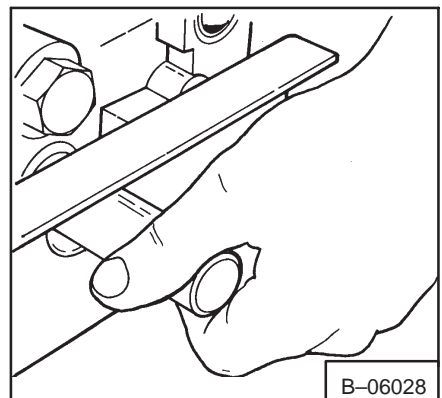

Fig. 3-20 Hose Fittings
7. Remove the hose fittings (Front and rear) (Fig. 3-20).
6. Install the hose fittings (Fig. 3-20) and the high pressure hoses.